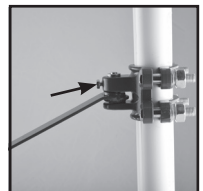

Fig 8
9. Insert the hoist frame stay support pin lock bolt (6) and with a 10mm spanner & lightly tighten (Fig 8).